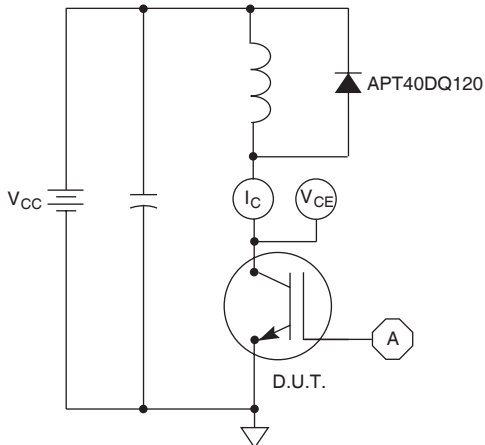

Figure 21, Inductive Switching Test Circuit
① Repetitive Rating: Pulse width limited by maximum junction temperature.
② For Combi devices, I_{ces} includes both IGBT and diode leakages
③ See MIL-STD-750 Method 3471.
④ E_{on1} is the clamped inductive turn-on energy of the IGBT only, without the effect of a commutating diode reverse recovery current adding to the IGBT turn-on loss. Tested in inductive switching test circuit shown in figure 21, but with a Silicon Carbide diode.
⑤ E_{on2} is the clamped inductive turn-on energy that includes a commutating diode reverse recovery current in the IGBT turn-on switching loss. (See Figures 21, 22.)
⑥ E_{off} is the clamped inductive turn-off energy measured in accordance with JEDEC standard JESD24-1. (See Figures 21, 23.)
⑦ R_G is external gate resistance, not including $R_{G(int)}$ nor gate driver impedance. (MIC4452)